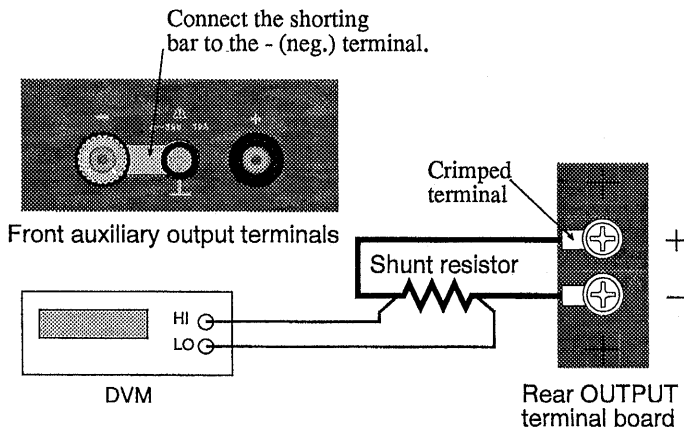

Fig. 5-3A Connection for current system calibration
- ① Turn off the OUTPUT switch.
- ② Turn off the POWER switch.
- ③ Connect a shunt resistor and DVM as shown in Fig. 5-3A.